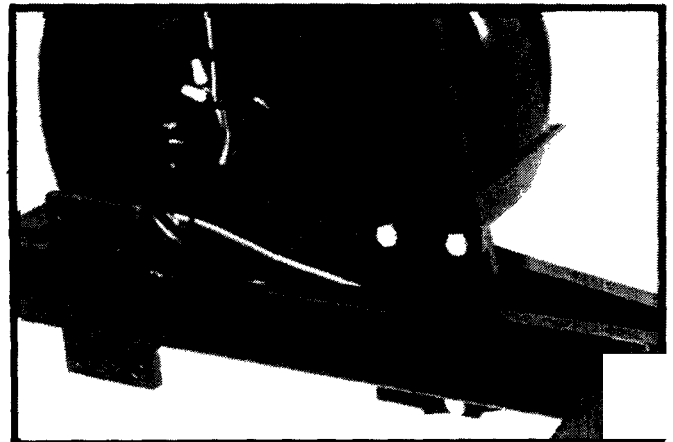

Figure 18
1. Attach the mounting masts to the forward mounting tabs on the trailer frame using three 5/16-18 x 11/4" screws and nuts. Use the center bolt hole on the bottom of the masts for the bottom forward hole position. Lean the masts toward the rear. The slotted holes on the masts go toward the rear and the tab on the left mounting mast faces outward (See Figure 18).